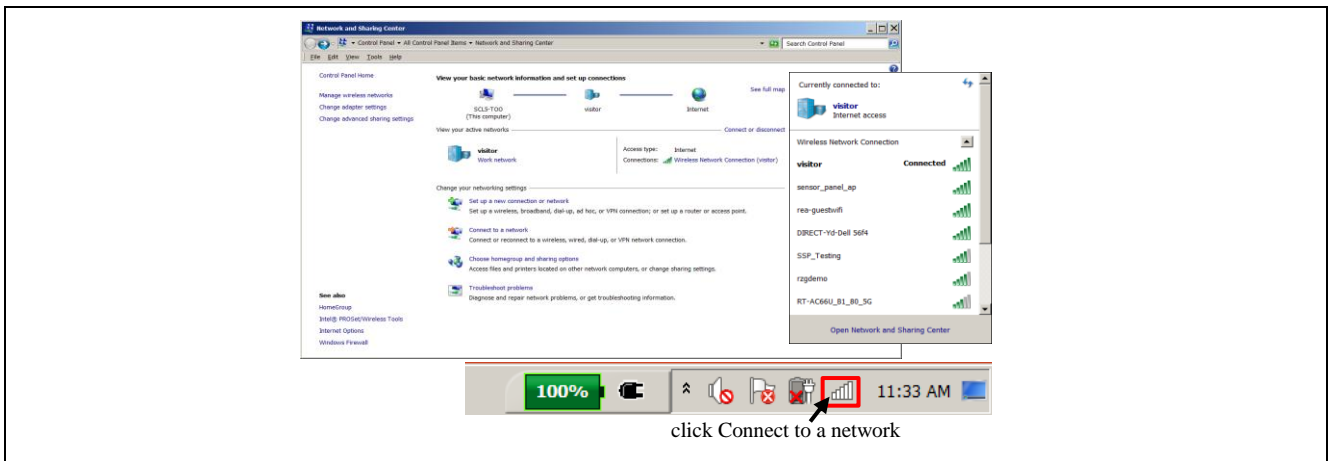

Figure 8 Connect Wireless to Sensor Panel Application
Step 5. Click “connect to network”. Select currently connected network and then disconnect the currently connected network. Figure 8 shows the “connect to network” icon for network selection.